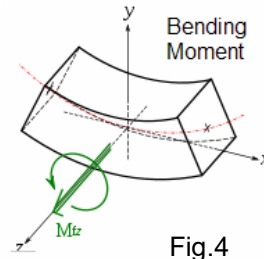

Fig.4
- If the bending is Sagging than fiber above neutral axis is under compression and fiber below the neutral axis is under tension as shown in Fig.4